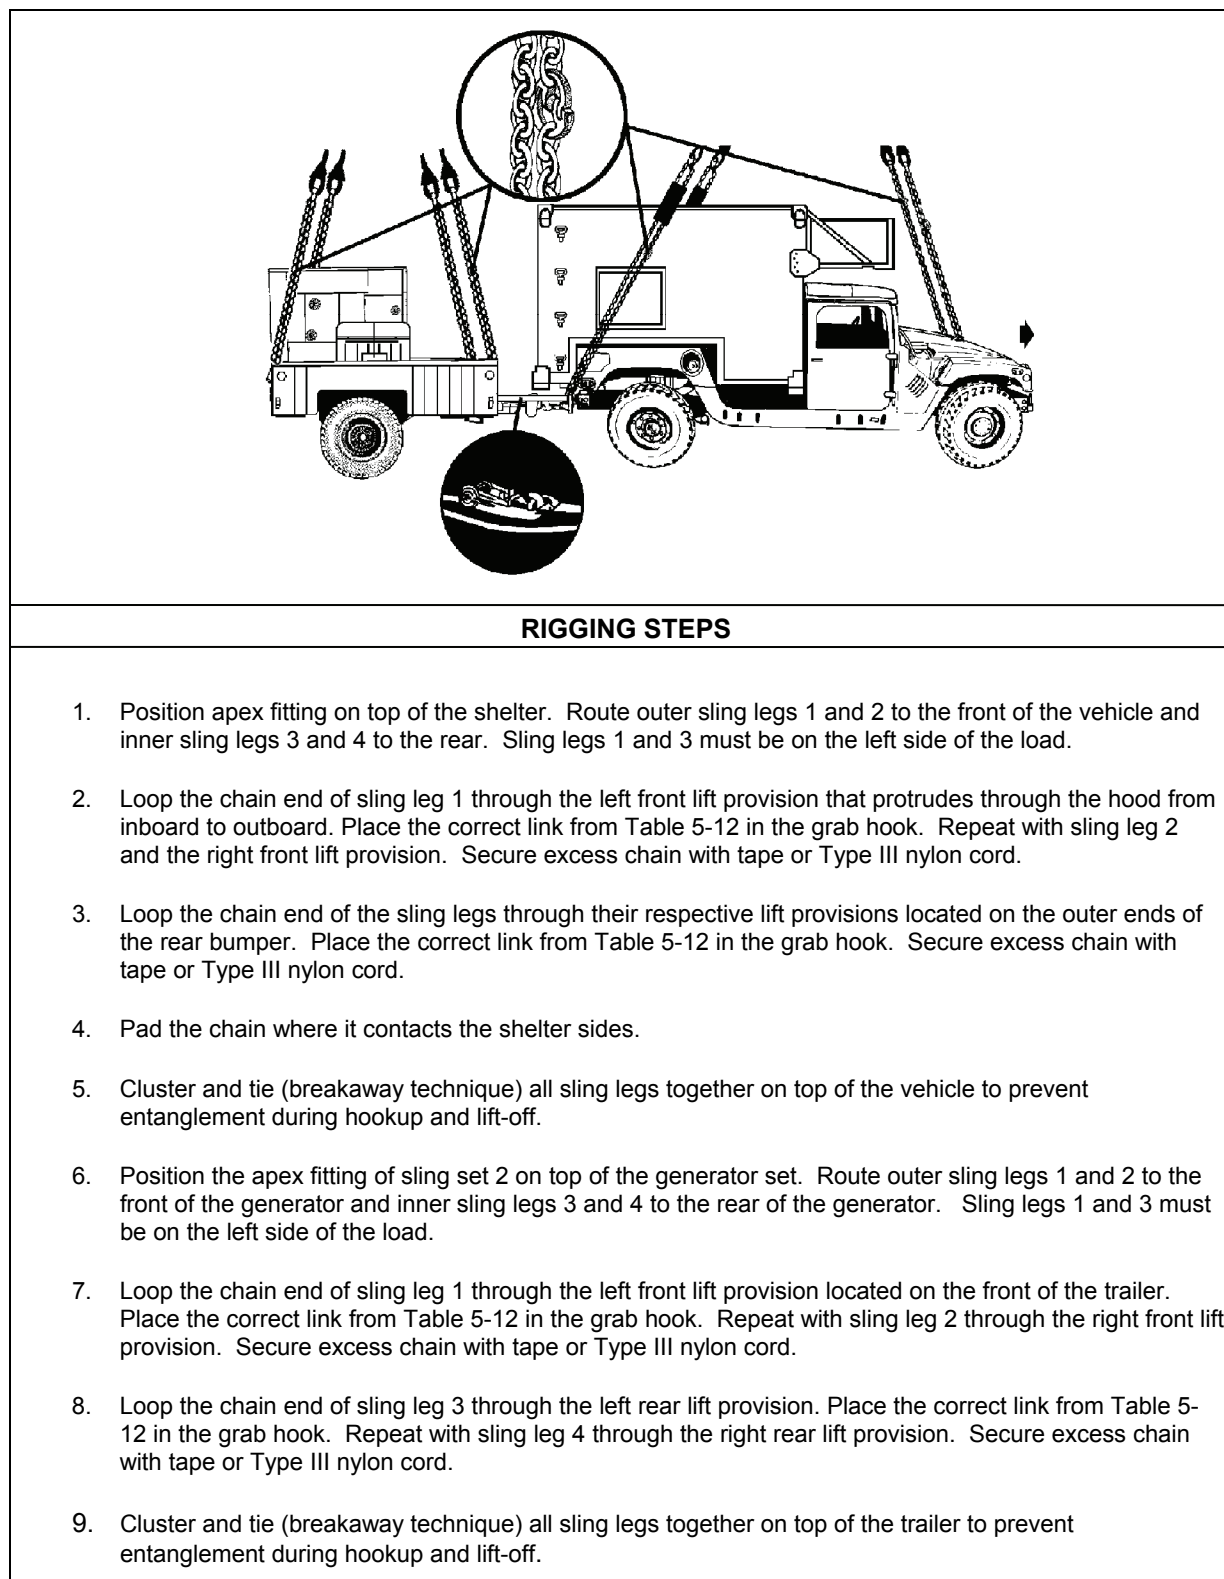

Figure 5-12. Joint Surveillance Target Attack Radar (JSTAR) System, M1097 (HMMWV) Mission Vehicle with LMS Shelter and Mission Trailer, HMT with Generator
- **Rigging.** Rig the load according to the steps in Figure 5-12.